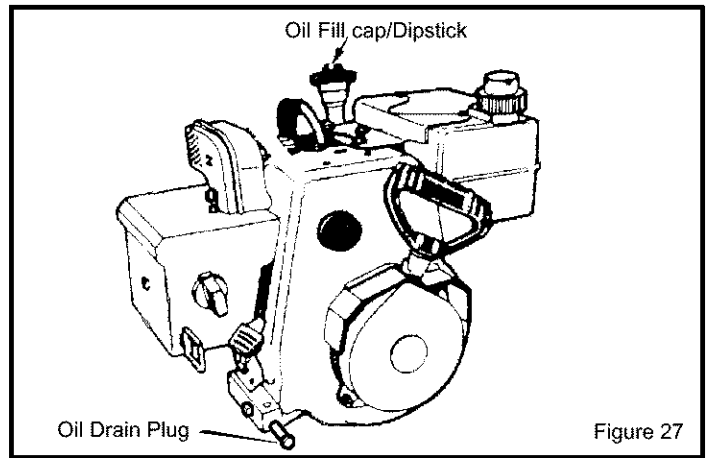

Figure 27
**To Drain Oil** – Position snow blower so that the oil drain plug is lowest point on engine. Remove oil drain plug and oil fill cap and drain oil into a suitable container (Figure 27).